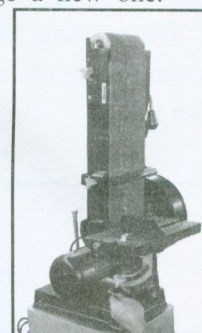

Fig 8
vertical position. Tighten the nuts down.(fig. 8)
2) The Sanding Disc Table can also be moved to become a work table for belt sanding . Simply remove the Table Support Shaft from the base and insert it into the mounting bracket behind the motor .The Bracket's location is shown in (fig 8).